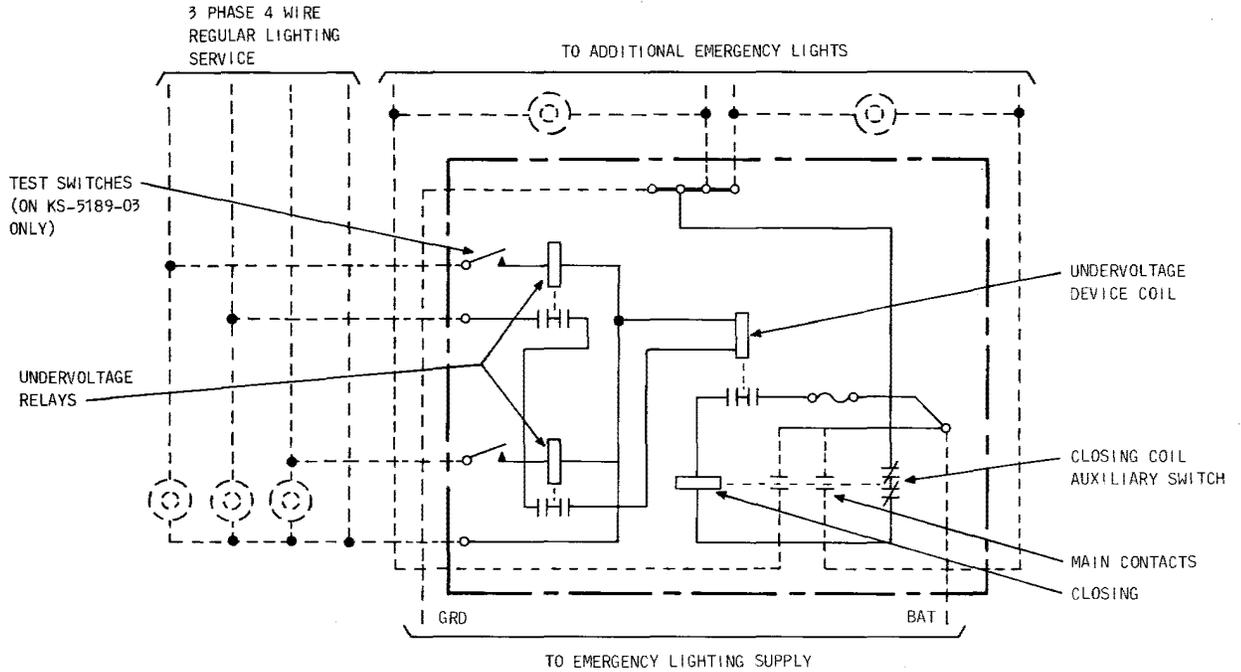

Fig. 3—Emergency Lighting Relay Switch Circuit Schematic (Old Version)
1.08 The emergency lighting relay switch, for single-phase service, consists essentially of a contactor and undervoltage device. For operation on polyphase service, an undervoltage relay is connected across each additional phase as shown in Fig. 3. The contacts of the undervoltage relays are connected in series with the undervoltage device. The contacts of the undervoltage relays are closed when the voltage of the regular service is satisfactory. They open when the voltage is too low and release the undervoltage device which completes the circuit to operate the contactor and connect the emergency lights. The contactor locks close mechanically and in so doing de-energizes the closing coil. When the voltage of the regular service rises sufficiently, the undervoltage device again becomes energized and opens the contactor. On the early models, both battery and ground were fed through the contactor. At present, only the battery circuit is broken as shown in Fig. 3.
Note: A 120-volt coil is used for 115- and 200-volt services, the relay on the latter being connected across one side and neutral as in Fig. 3.